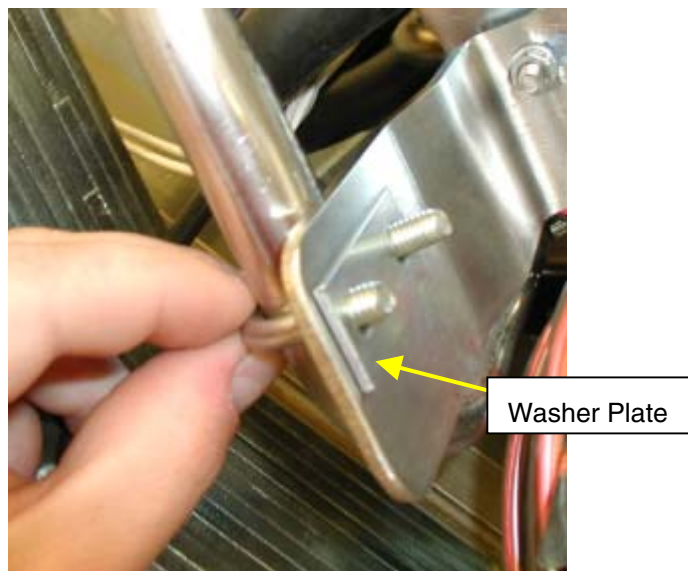

Figure 5. Installation of u-bolt and washer plate
5. Disassemble the different parts of the u-bolt assembly (5161681). As shown in Figure 5, place the u-bolt around the pump inlet pipe and through the slots in the bracket. Install the washer plate over the ends of the u-bolt.